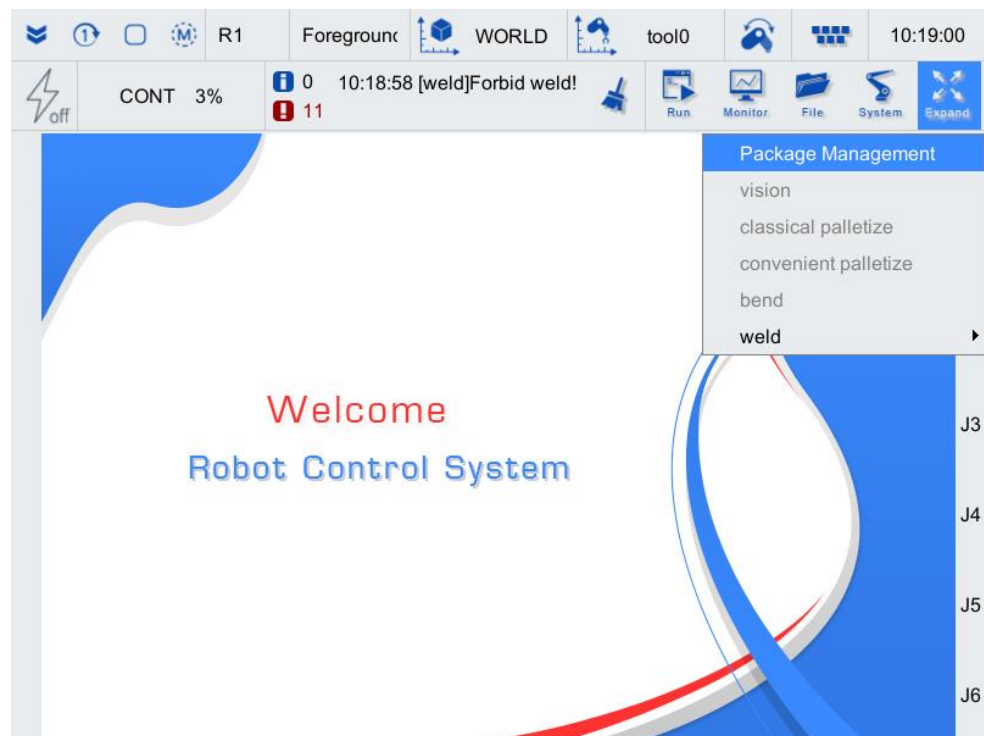

Figure 4-14 List of feature pack
Step1. Click the "Expand" button to pop up the drop-down list, as shown in Figure 4-14.